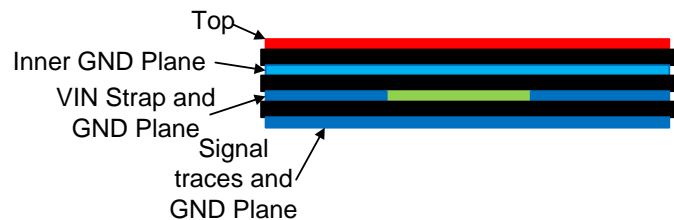

Figure 53. Example Layout for VQFN Package
The PCB layout of any DC/DC converter is critical to the optimal performance of the design. Bad PCB layout can disrupt the operation of an otherwise good schematic design. Even if the converter regulates correctly, bad PCB layout can mean the difference between a robust design and one that cannot be mass produced. Furthermore, the EMI performance of the regulator is dependent on the PCB layout, to a great extent. In a buck converter the most critical PCB feature is the loop formed by the input capacitor(s) and power ground, as shown in Figure 51. This loop carries large transient currents that can cause large transient voltages when reacting with the trace inductance. These unwanted transient voltages will disrupt the proper operation of the converter. Because of this, the traces in this loop should be wide and short, and the loop area as small as possible to reduce the parasitic inductance. Figure 52 and Figure 53 show recommended layouts for the critical components of the LMR33630.
1. **Place the input capacitor(s) as close as possible to the VIN and GND terminals.** VIN and GND pins are adjacent, simplifying the input capacitor placement. With the VQFN package there are two VIN/PGND pairs on either side of the package. This provides for a symmetrical layout and helps to minimize switching noise and EMI generation. A wide VIN plane should be used on a lower layer to connect both of the VIN pairs together to the input supply; see Figure 53.